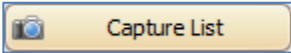

Figure 277 - Show Online Photo
- Click on  to view the staff photo and information (Refer **Figure 277**). Make sure you click on the CardNo in Latest Event List.